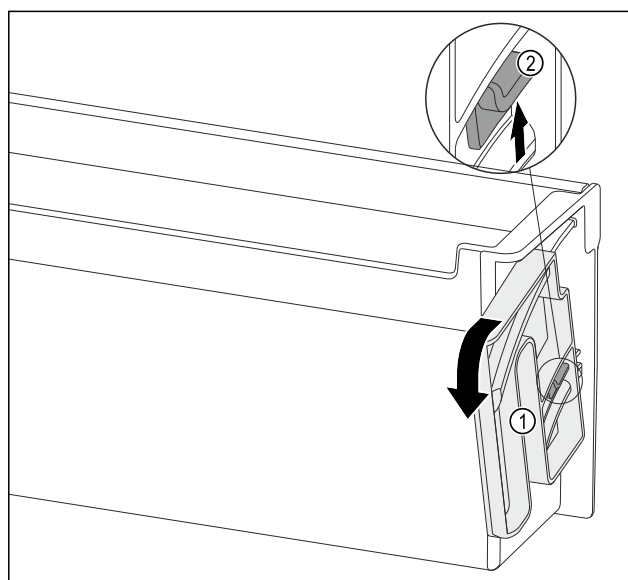

Fig. 154
- ▶ Turn the swivel unit Fig. 154 (1) in the specified direction as far as it goes.
- ▶ Push the tab Fig. 154 (2) up and remove the swivel unit Fig. 154 (1).